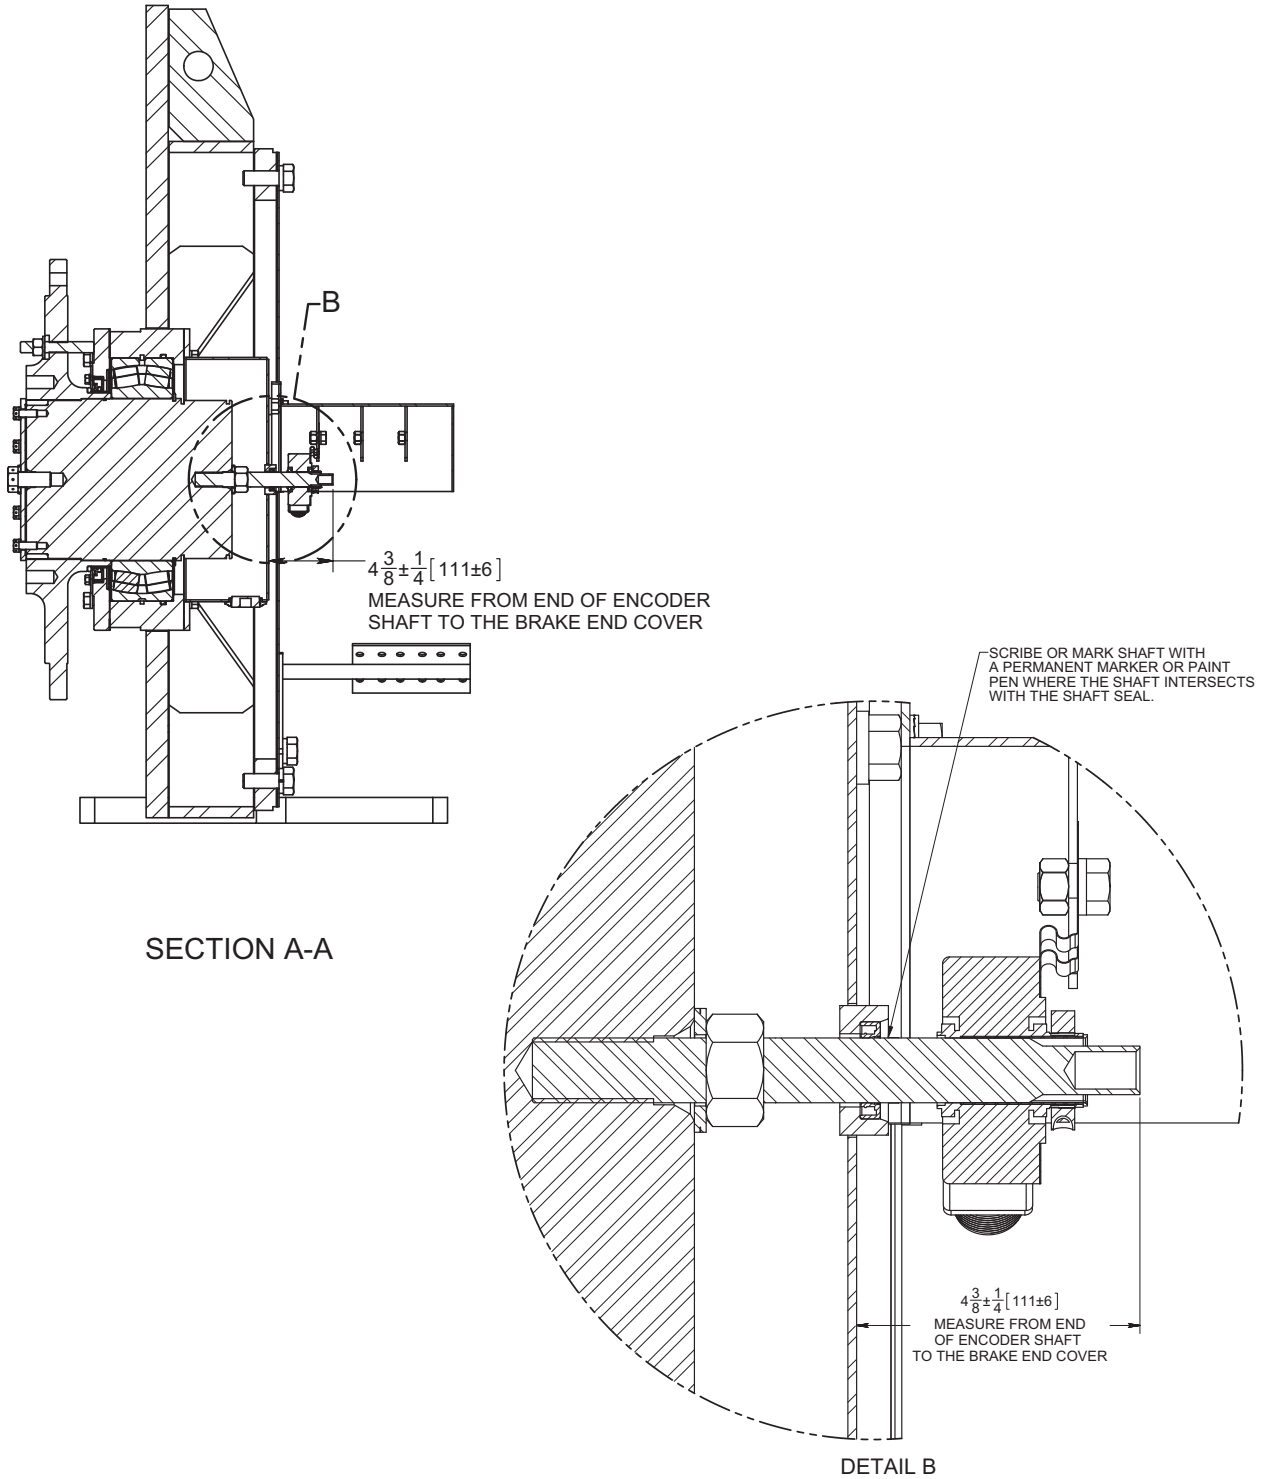

Figure 1: ODS Encoder Shaft Measurements
1. On the ODS encoder shaft, use a permanent marker or paint pen and scribe a line on the shaft where the shaft meets the shaft seal. (See Section A-A and Detail B in Figure 1 on page 3).
2. Referencing the dimensions supplied on Section A-A (see Figure 1 on page 3), verify if the shaft has moved.